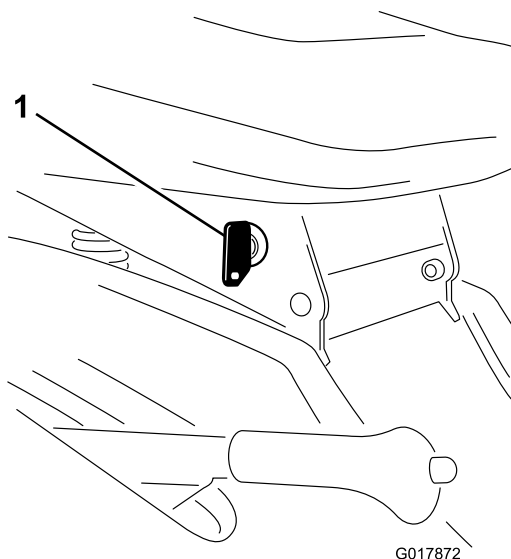

Figure 10
If you need to use the blades (PTO) while backing up, turn off the interlock feature using the KeyChoice switch located near the seat bracket (Figure 10).
2. Insert the KeyChoice key into the switch (Figure 10).